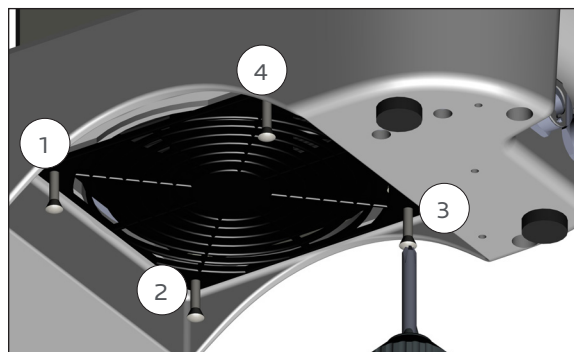

Figure 148 - Step 1 Insert screws in order.
1. Insert the first #8-32 x 1" oval-head screw into the fan guard screw holes. The screw should point in the opposite direction from the filter. Insert them in the order shown for best results (Figure 148). Use the Phillips screwdriver to tighten the screw while holding the Keps nut with the slotted screwdriver. Screw #3 shown.